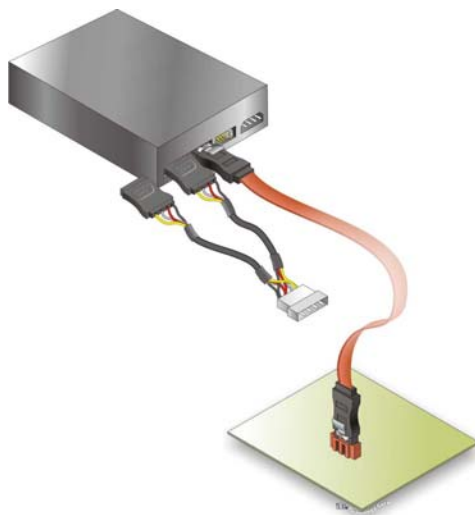

Figure 5-14: SATA Power Drive Connection
Step 3: **Connect the cable to the SATA disk.** Connect the connector on the other end of the cable to the connector at the back of the SATA drive. See **Figure 5-14**.
Step 4: **Connect the SATA power cable.** Connect the SATA power connector to the back of the SATA drive. See **Figure 5-14**.